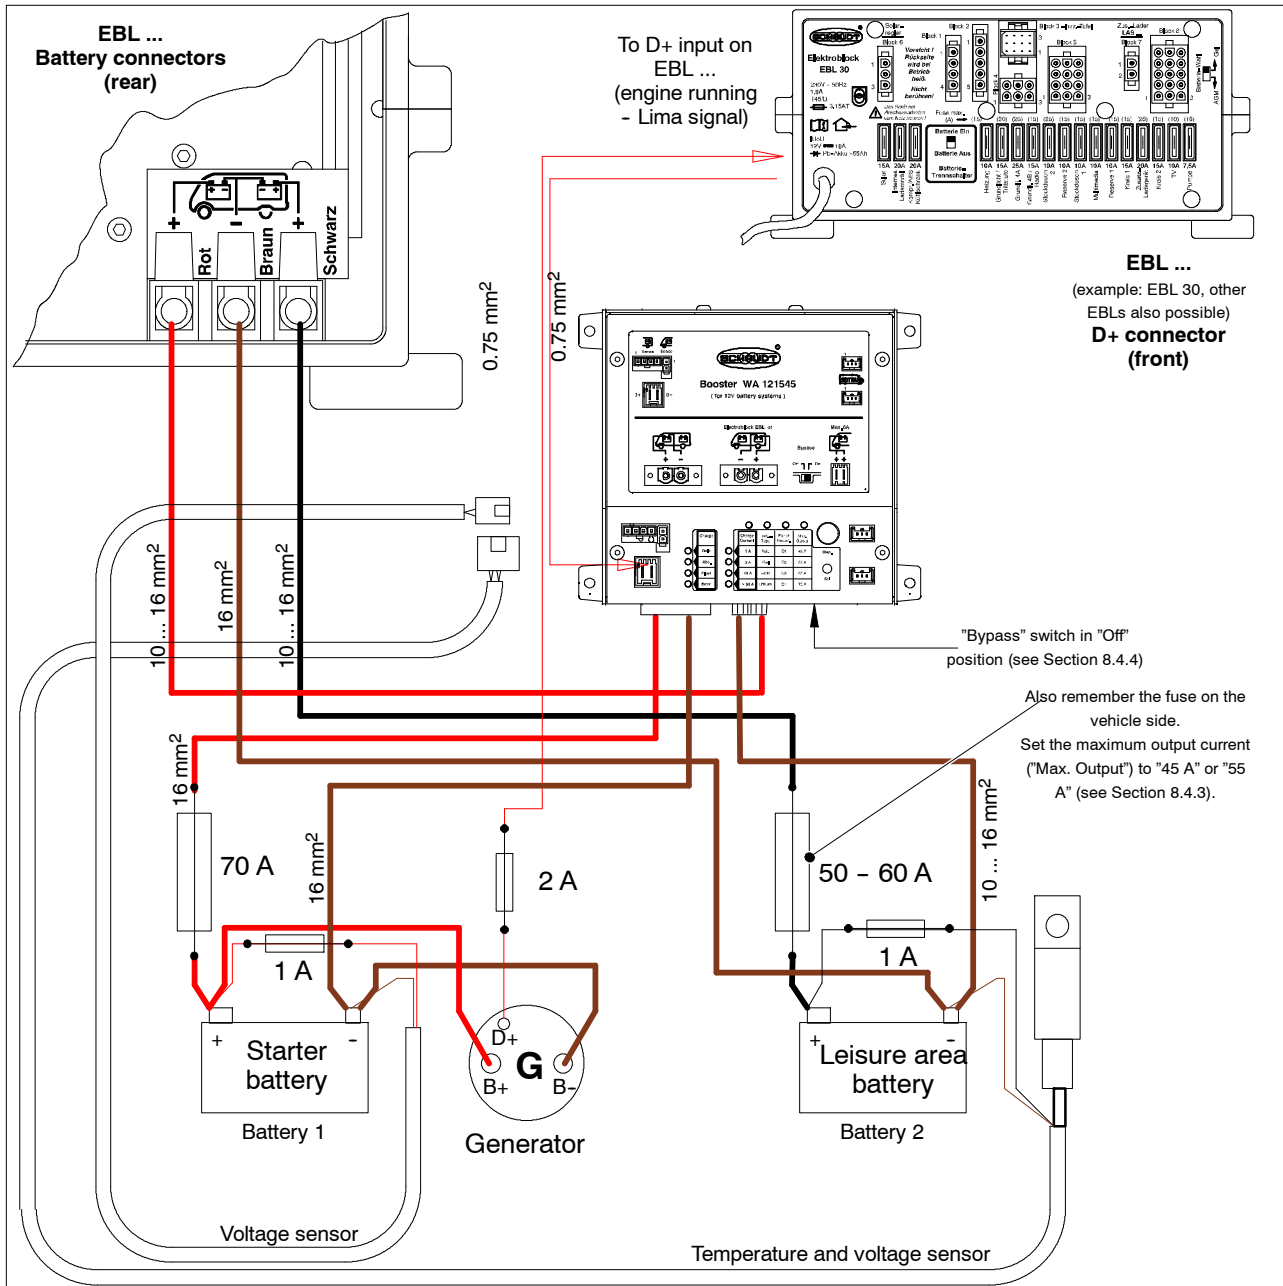

Fig. 6 Vehicles with Schaudt EBL ... - ground on booster
- ▶ Establish all cable connections as in Figure 6, 7 or 8. Ensure the cables have the cross sections required and that the fuses are installed correctly. Do not yet insert the fuses into the sockets.
**Use** Simple connection of the booster to the vehicle-side system provided the fuses is already present on the vehicle, e.g. in the case of a standard Schaudt EBL ... (see example fig. 6).